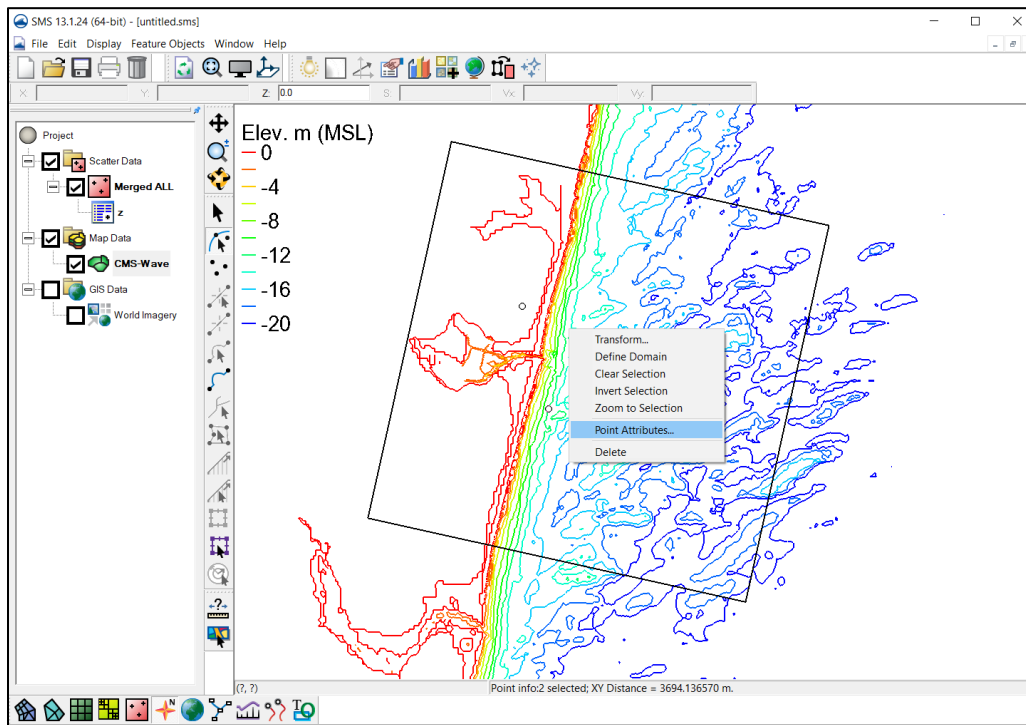
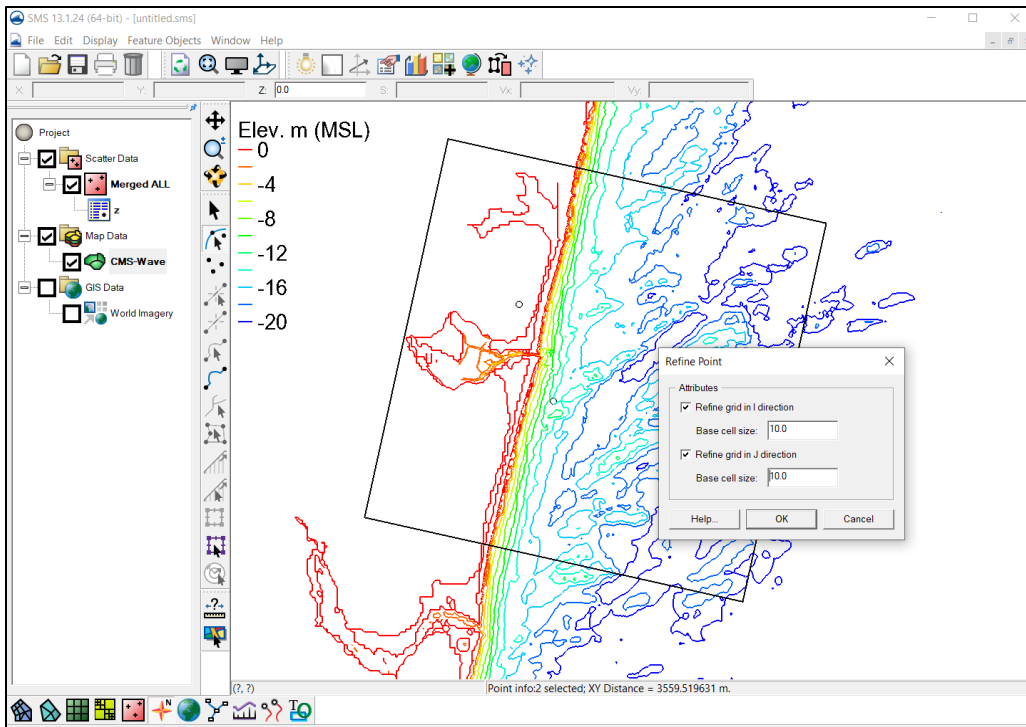

Figure 7. Display Feature Point properties menu.
Figure 8. Specifying refine base cell size(s).
- In the  **Map module**, use **Create Feature Point**  tool to specify a pair of feature points or multiple pairs of feature points. Using (click) **Select Feature Point**  tool, users can click and hold a feature point to move it to a different location. Select each pair of points (drag a box area to enclose each pair of points) and right-click to select the “Point Attributes...” in the drop-down menu (Figure 7). This will bring up *Refine Point* dialog (Figure 8).